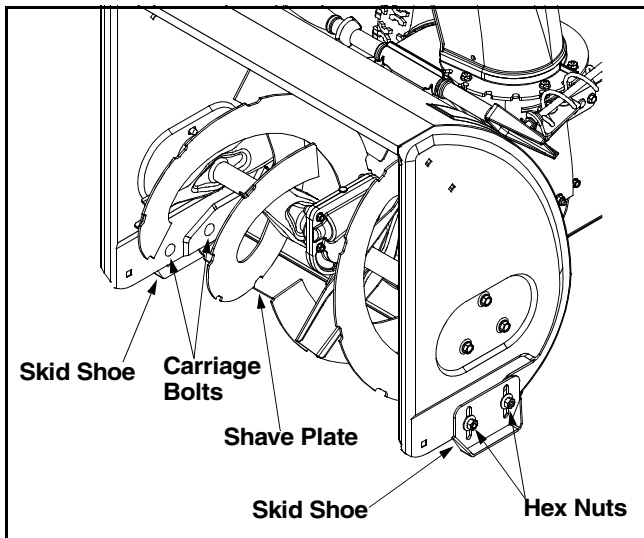

Figure 24
- To remove skid shoes, remove the four carriage bolts, cupped washers and hex nuts which attach them to the snow thrower. Reassemble new skid shoes with the four carriage bolts, cupped washers (cupped side goes against skid shoes) and hex nuts. See Figure 24.